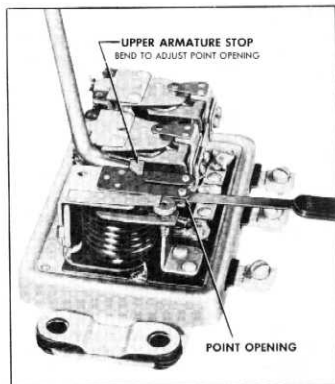

Fig. 18—Adjusting Point Opening
- Check point opening. This opening should be .020" and may be adjusted by bending the upper armature stop (fig. 18).